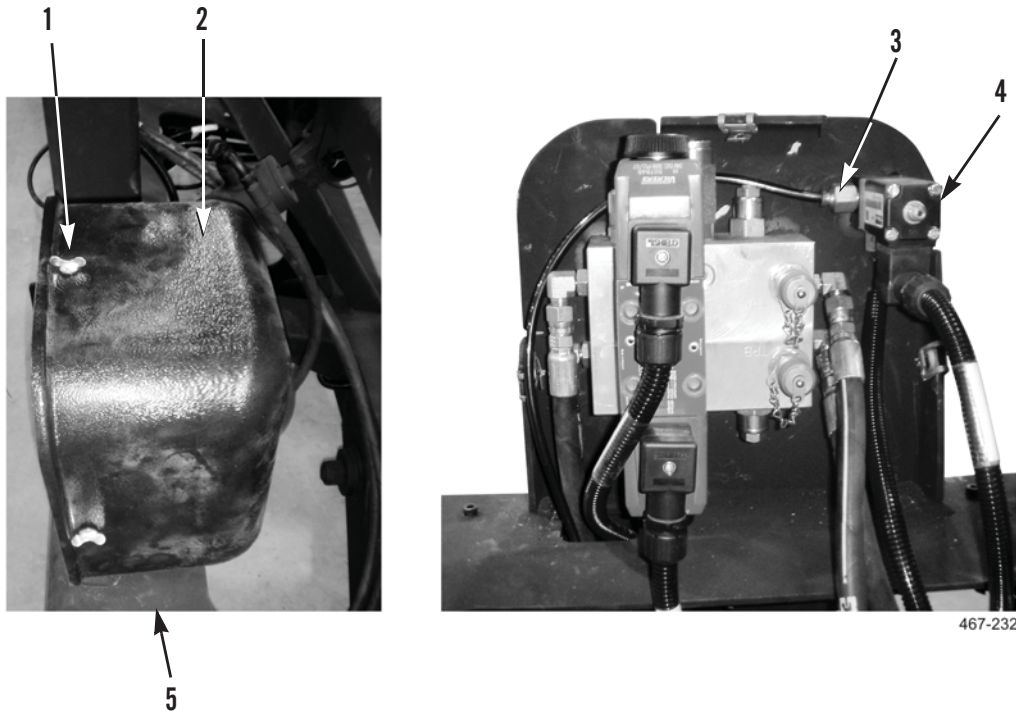

Figure 12. Solenoid Valve Supply Hose Installation.
1. Install pneumatic supply hose (Figure 12, Item 3) on solenoid valve (Figure 12, Item 4).
2. Install solenoid cover (Figure 12, Item 2) on stowage assembly (Figure 12, Item 5) and tighten three locking screws (Figure 12, Item 1).